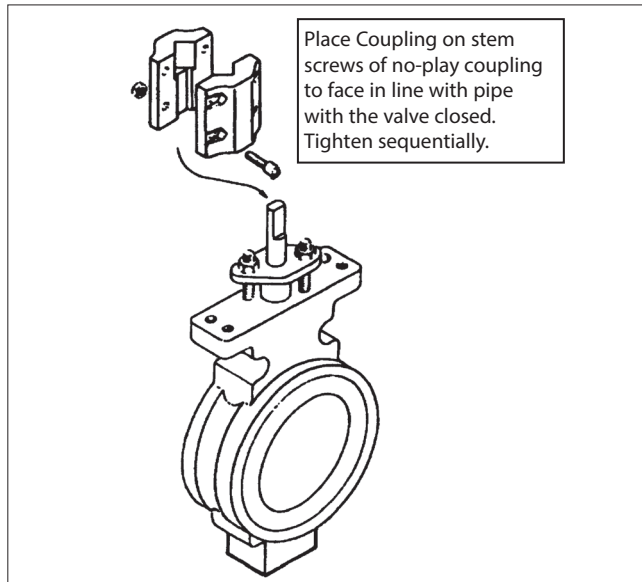

Figure 11.
2. Assemble bracket to actuator as shown in (Figure 11). Tighten to torque listed in (Table 4).